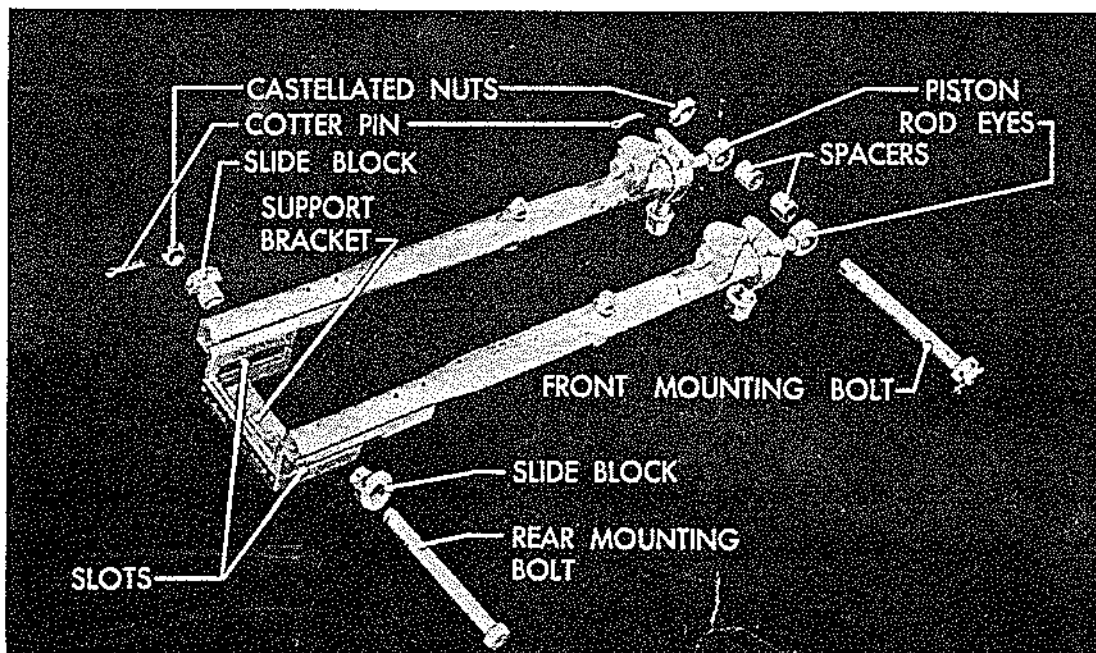

Figure 31B.—Gun Mount Adapter Mk 8 Mod 1—Ready for Installation
- (a) Remove front and rear mounting bolts shown in Fig. 31B.